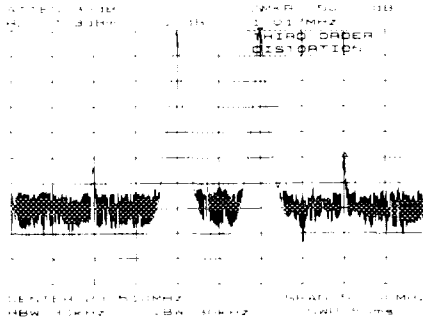

Fig.4.6. Display with title.
- o. You may want to store the measurement information for future use. The functions **SAVE** and **RECALL** allow you to store data for later viewing. The **SCREEN TITLE** function allows you to create a title on the screen and a label for the **RECALL** menu. To create make a title, press **DISPLAY** and the softkeys MORE and **SCREEN TITLE**. Next, use the softkeys from the **SCREEN TITLE** menu and the knob (to choose the letters) to create a title. The title appears in the upper right corner of the graticule and can be one or two rows of 16 characters each (see Figure 4.6). Press the softkey **TITLE DONE** when the title is complete.